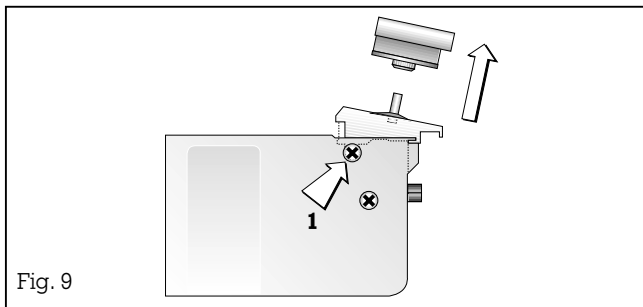

Fig. 9
- Pull off the control knob. After undoing the securing screws **(1)** on the left and right (Fig. 9), you can remove the control panel by lifting **(2)** and pushing **(3)** it out of the latch (Fig. 10).